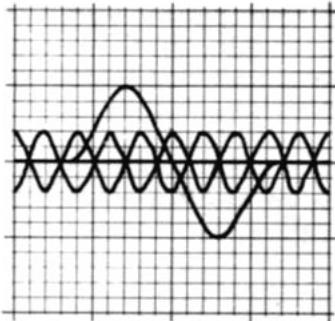

FIG. 14. DISCRIMINATOR RESPONSE – 400 CYCLE MODULATION
9. Turn the SIGNAL switch to MOD. R.F. A pattern similar to figure 14 will appear on the oscilloscope if the discriminator secondary is not aligned perfectly. Reduce the SIGNAL ATTENUATORS to as low a setting as possible with the 400 cycle pattern still showing.